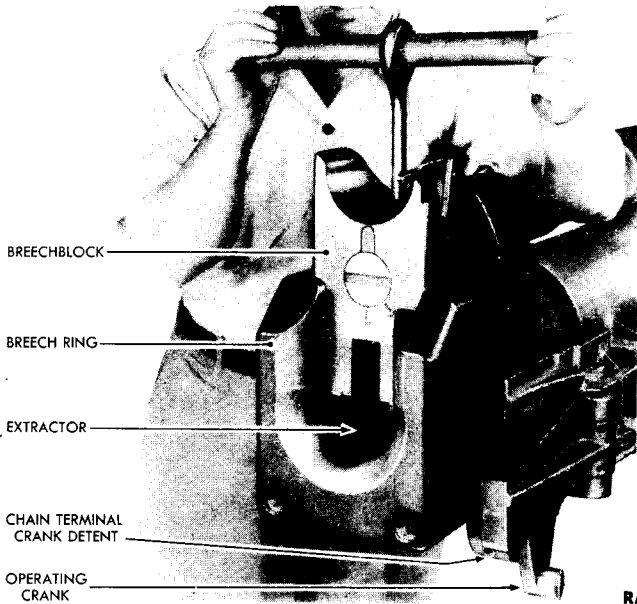

Figure 13 – Lifting Breechblock from Breech Ring
f. Remove Breechblock from Breech Ring (fig. 13). Grasp eyebolt and lift breechblock upward and out of breech ring. Lay breechblock carefully to one side.